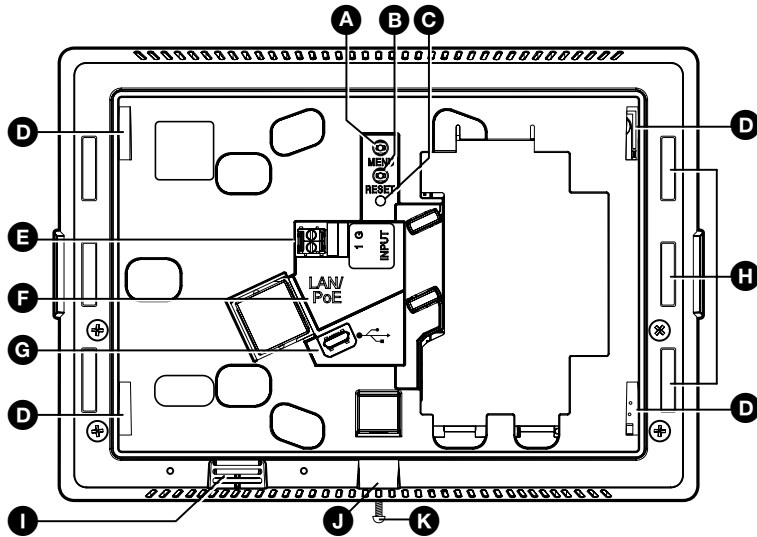

Figure 3. Rear Panel
4. The mounting plate has four hooks (③), one in each corner. Position the touch panel so that the four mounting slots in the rear of the touchpanel align (see figure 3, ④, on the following page) with these hooks.